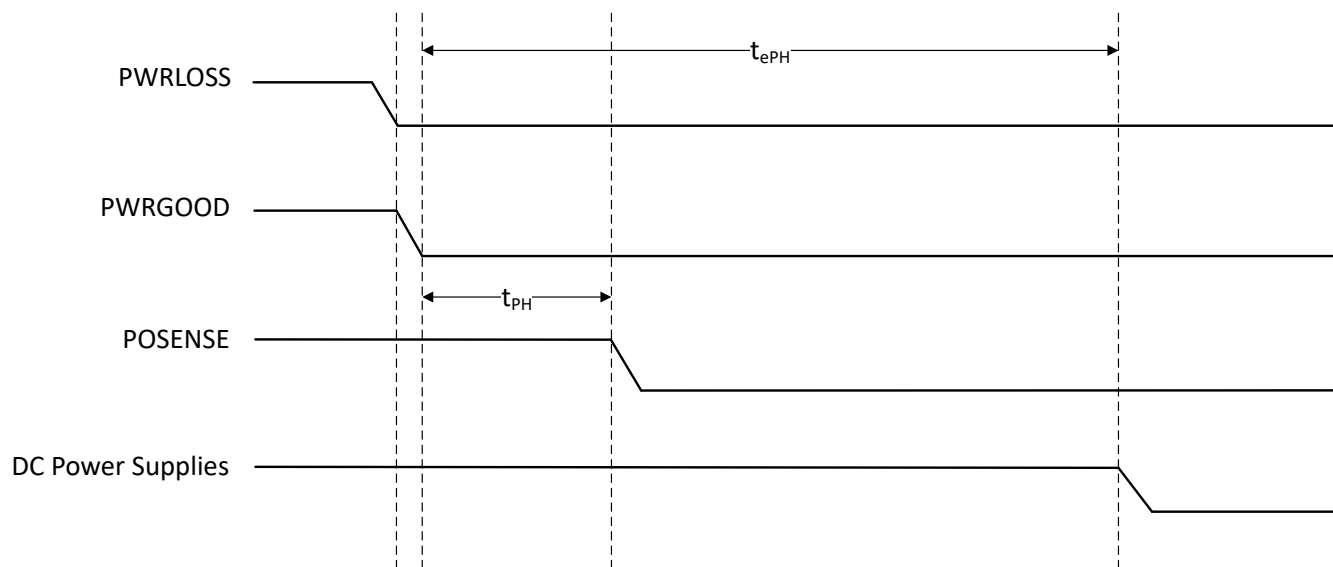

图 5-5. Unanticipated Power Loss Timing Diagram
2. An unanticipated power loss. In this case, a power loss detection circuit must provide a means of triggering a power loss. 图 5-5 shows a timing diagram where the Voltage Monitor detects a power loss and deasserts PWRGOOD. **Power Regulation must maintain the DC Power Supplies until the minimum t_{ePH} is met.** During t_{ePH} the DLPC900 performs the necessary power-down sequence on the DMD. The power supplies can be allowed to drop below their specifications once the minimum t_{ePH} is met.